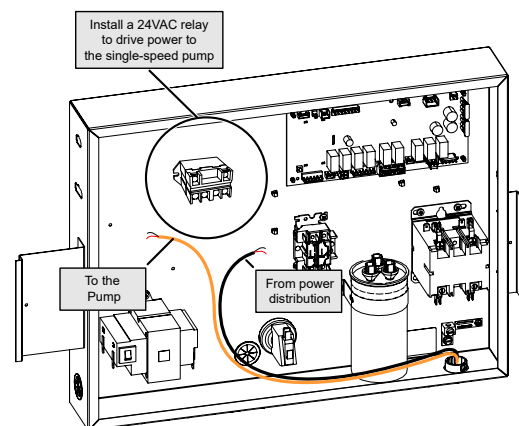

Figure 136. Install Relay in Control Box
3. Install a field-supplied relay inside the control box. See Figure 136. The relay shall have a coil for 24VAC, and contact terminals rated to the current specifications of the pump. The next components are recommended for this application